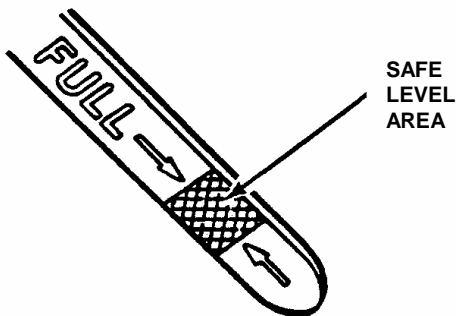

FIGURE 2.1
**2.1.3.** Check engine oil and add oil as needed to bring level up to, but not over, the FULL mark. Refer to engine owner's manual for oil specifications. See Figure 2.1.